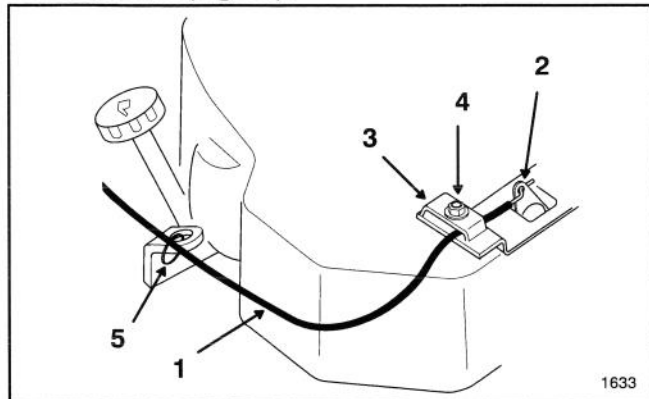

Figure 21
3. Push firmly on choke cable until choke lever is in the full open position. Tighten cable clamp screw (Fig. 21).
4. Secure choke cable to lift ring, on right side of engine, and handle, just above fuel tank bracket, with cable ties (Fig. 21).